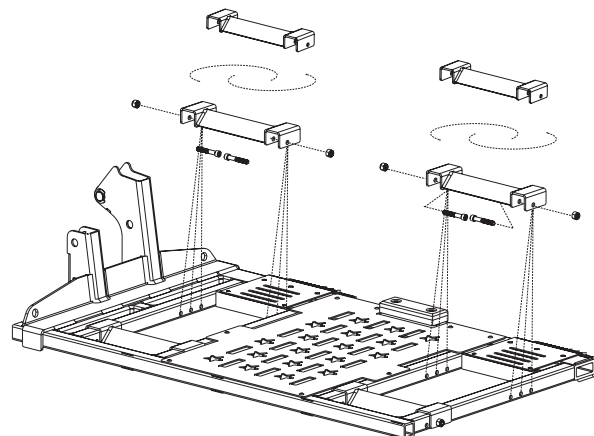

Figure 6-22
- Test the platform with the power chair. Once satisfied, fasten platform in place with nyloc nuts (8 ft-lb). *See Figure 6-22.*